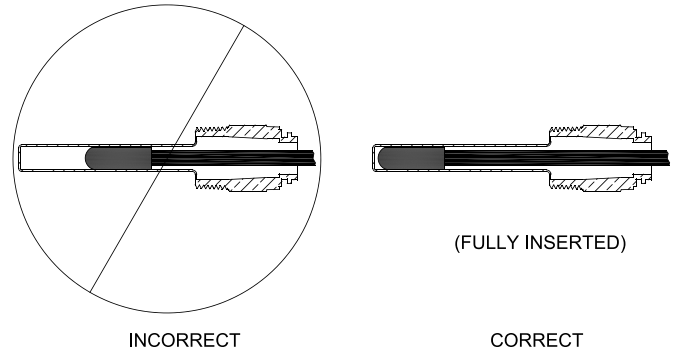

Figure 3-6: Limit Sensor Insertion
- c. Locate the Limit sensor inside Boiler Control. Carefully connect sensor into the Boiler Control circuit board by pressing connector on sensor unit into mating connector on circuit board (refer to Figure 11-1). Insert sensor through hole in circuit board and into immersion well until it rests against the bottom of the well as shown in Figure 3-6.